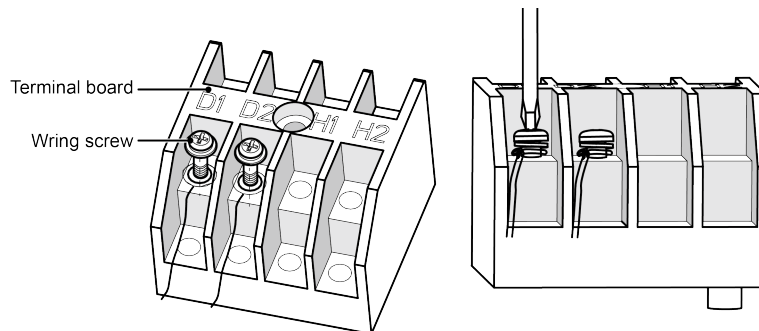

Fig.5.3.1
- (1) Detach the electric box lid.
- (2) Let the Communication cable pass through the wiring through-holes.
- (3) Connect the communication wire to terminal D1 and D2 of indoor 4-bit wiring board, as shown in Fig.5.3.1.